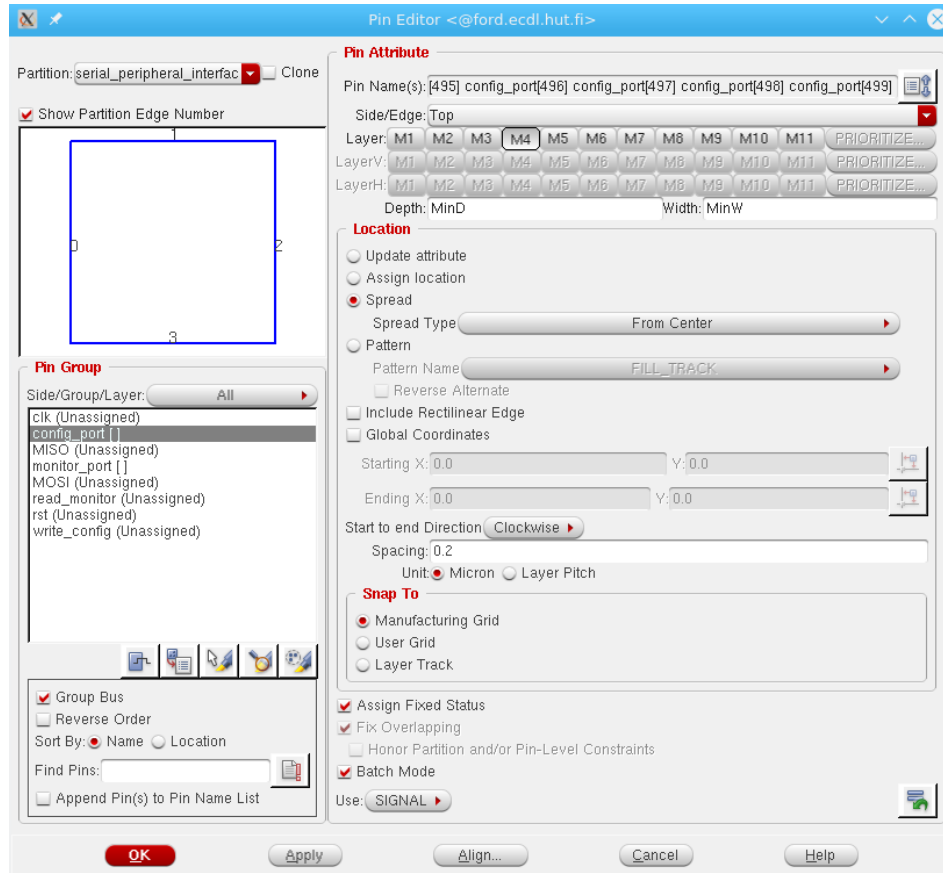

Figure 4.3: Pin Editor window.
6. Spread all 500 pins of “config_port” to the center of the top die side, on the M4 metal layer, at regular 0.2 μm intervals. Select “config_port []” from the list on the left, and enter the settings as shown in Figure 4.3. Click **Apply**. A message **Successfully spread [500] pins** should appear in the console.